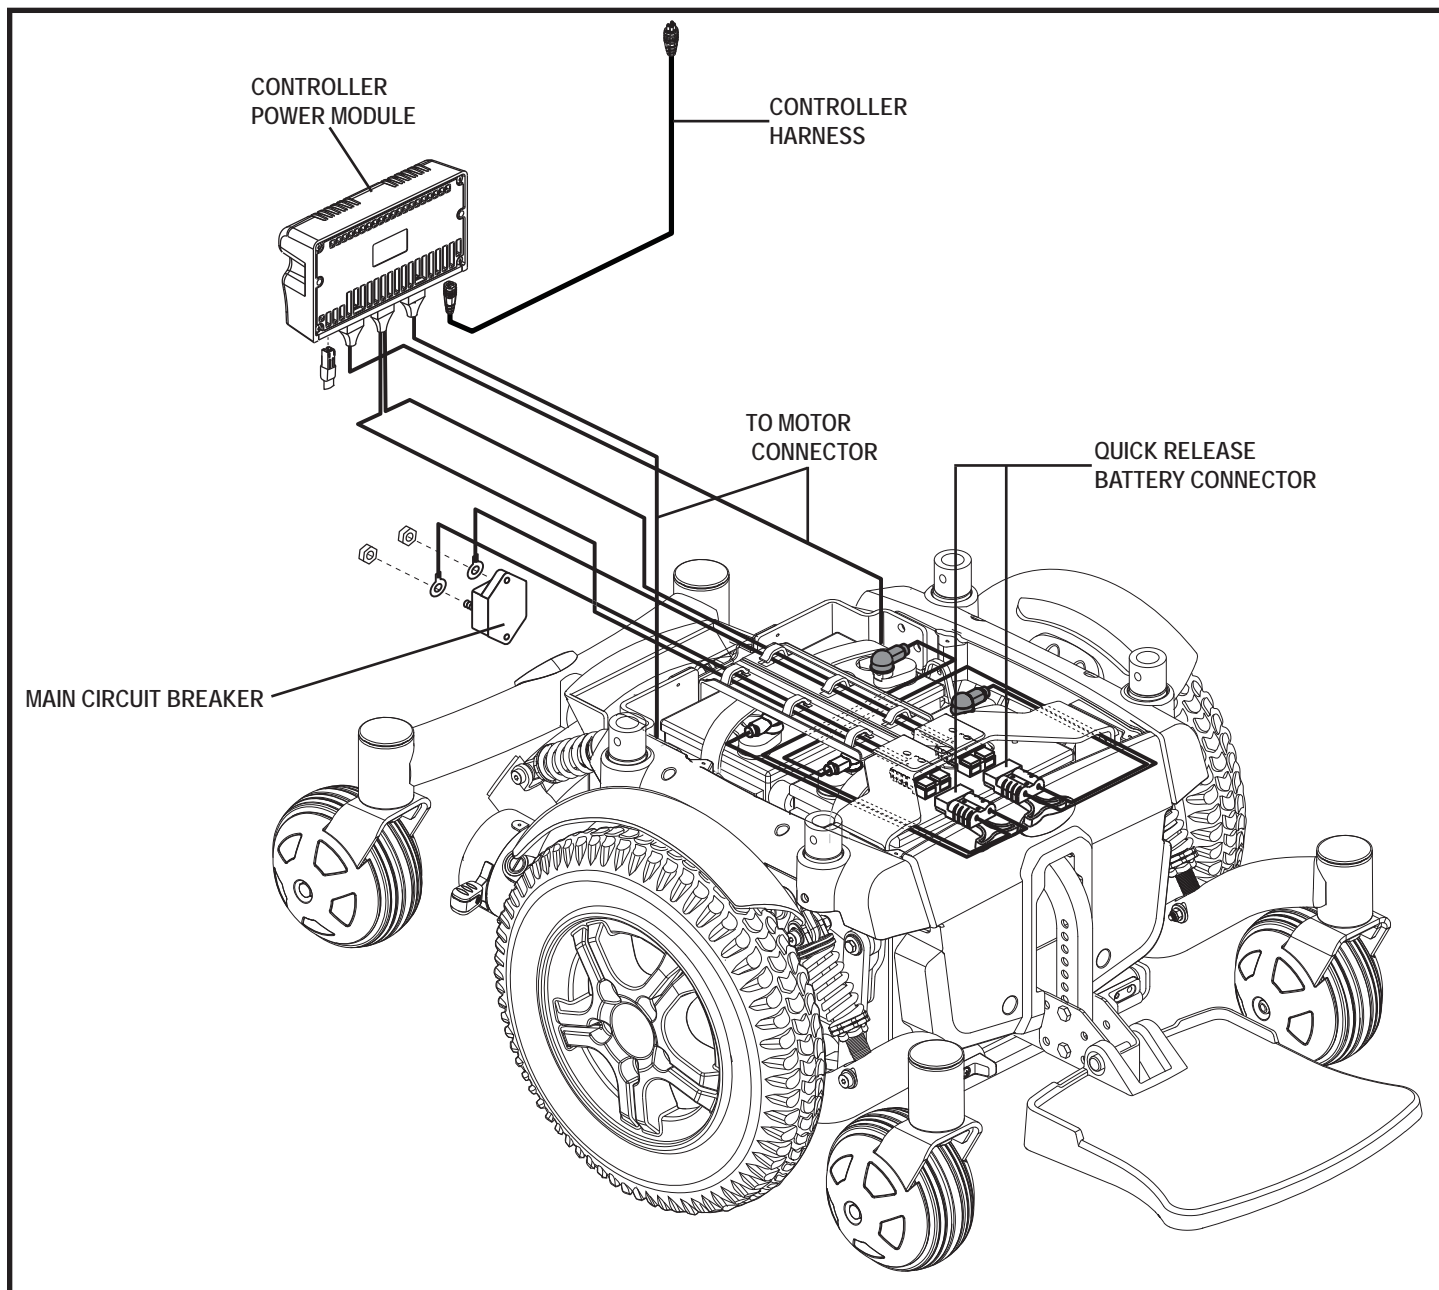

Figure 3. Quantum 600 Series Electrical Components
The electrical components consist of the controller assembly, the batteries and the motors. The batteries, motors and controller power module (if equipped) are located on the power base assembly. The controller is located on the seat assembly. Connectivity between the controller and the motors, batteries and the battery charger is provided by one or more wiring harnesses. **See figure 3.**
6. Plug the controller connector into the power base. **See figure 3.**
4. Disconnect the controller connector(s) from the power base. **See figure 3.**